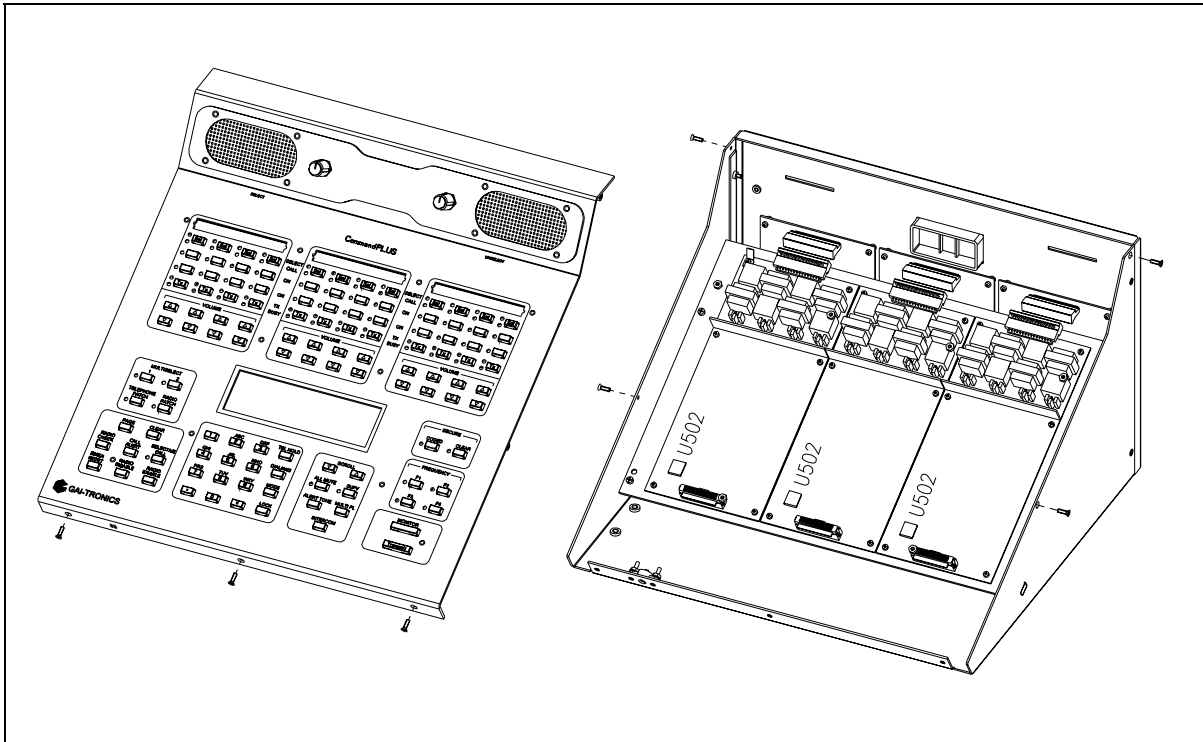

Figure 1.
2. Remove the seven screws securing the top panel and gently lift the cover exposing the attached speaker cable and master display cable. See Figure 1.
8. Disconnect the (SLV-CBL-P) cables from the surge suppression PCBAs. This allows you to remove the mounting plate giving access to the main control PCBA. See Figure 1.